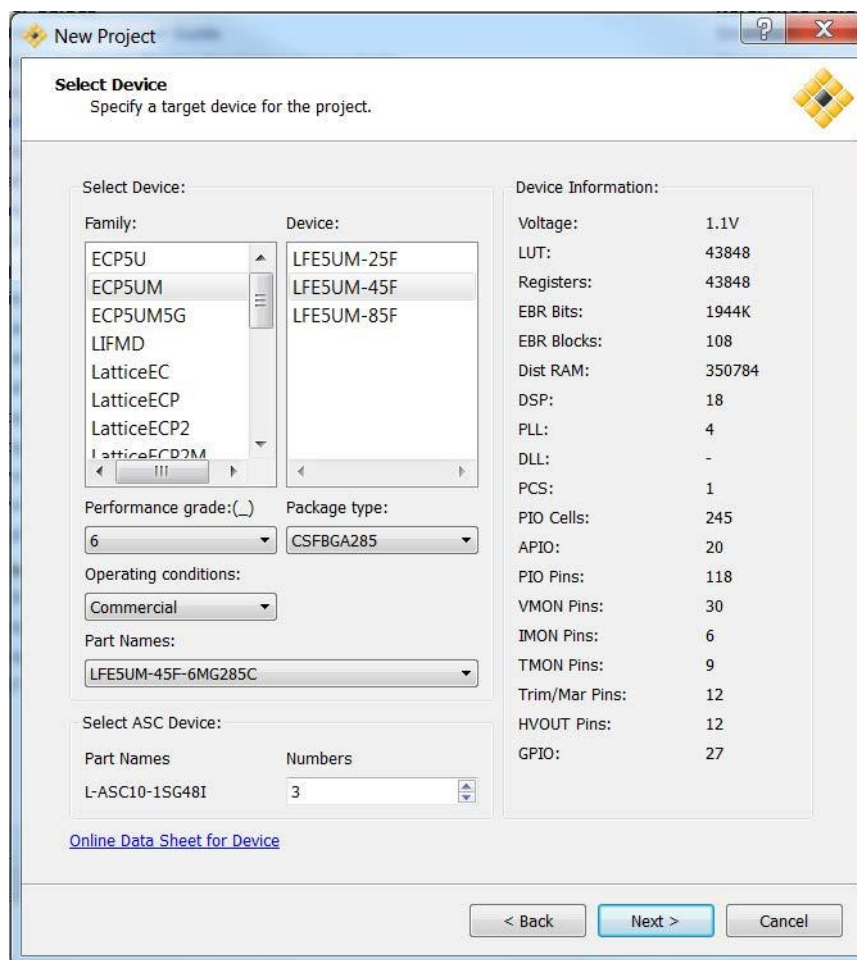

Figure 5.1. New Project Device Selector
7. Add ASC Devices by increasing the Numbers in the Select ASC Device section (See Figure 5.1 Below)
will open the same dialog window shown in Figure 5.1. Change the device from MachXO2 or MachXO3 to one of the supported ECP5 variants.